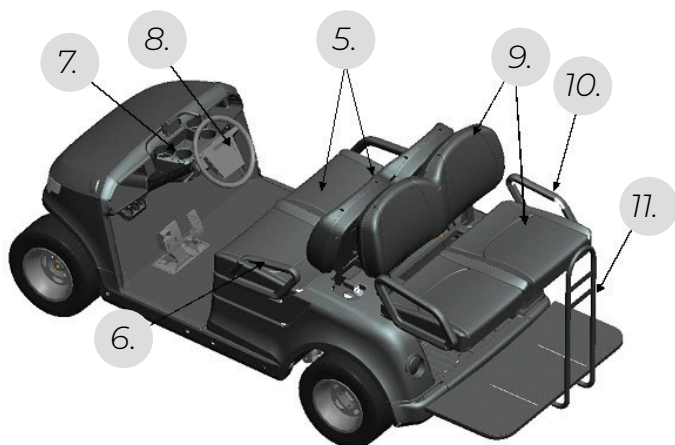

Figure 12 - Rear Seating
(Figure 12 - Rear Seating)
- The front hip restraints (6) help people stay in position while the vehicle is in motion. (Figure 12 - Rear Seating)
- The vehicle has a cup holder (7) for the benefit of both the driver and passenger. (Figure 12 - Rear Seating)
- The seat flips down to hold and carry cargo. (Figure 12 - Rear Seating)
(9). (Figure 12 - Rear Seating)
There are rear hand rails (10), one on each side of the rear seat to help passengers stay in position when the vehicle is in motion. The passengers must hold the rear hand rail (10) whenever the vehicle is in motion. (Figure 12 - Rear Seating)
The rear handle (11) is located at the far end of the vehicle in the center of the foot-rest. The handle helps the passengers stay in position when the vehicle is in motion. The passengers must hold the rear handle (11) when the vehicle is in motion. (Figure 12 - Rear Seating)